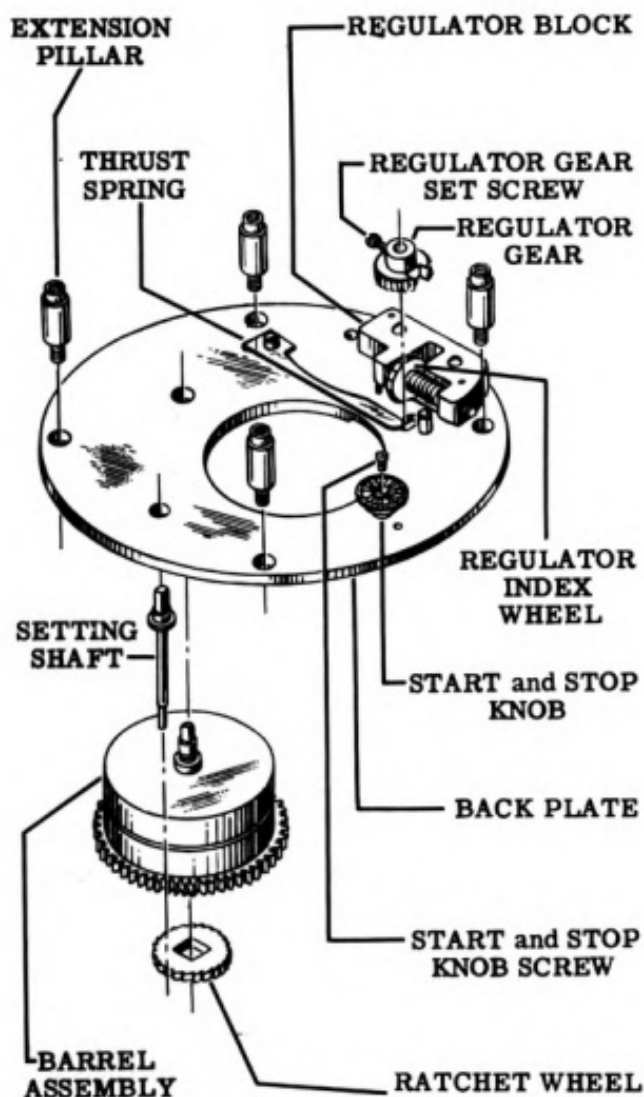
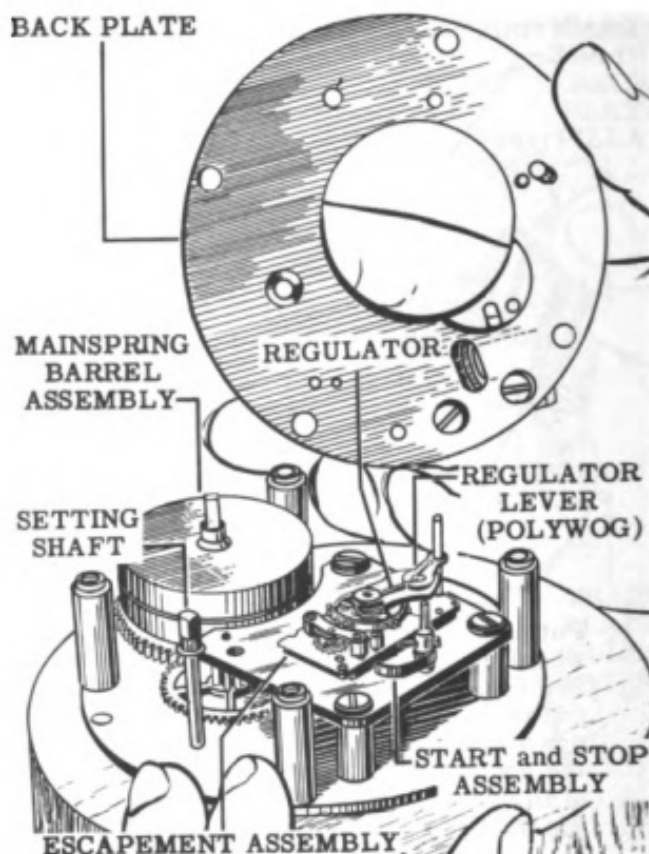

Figure 79
Figure 80
15. Put the ratchet wheel on the barrel arbor and mount the barrel into its hole in the front plate. Check to see that the click properly engages the ratchet wheel. Refer to Figs. 79 and 80.
16. Place the regulator staff assembly in position, making sure that the polywog engages the regulator in its center position. Tighten the regulator staff collar screw so that the regulator staff collar holds the polywog down on the regulator. Refer to Fig. 80.
17. Place the start and stop assembly in position on the train plate. See Fig. 80. Check to see that turning the start and stop shaft causes the start and stop spring to touch the rim of the balance wheel, and that the start and stop arbor spring causes a return of the arbor away from the balance wheel.
18. Place the setting shaft in position. See Fig. 80.
19. Put on the back plate with the assembled regulator assembly and thrust spring. See Fig. 80. While putting on the back plate, hold the start and stop spring screw aside so that it does not get on the wrong side of the start and stop stud in the back plate. With the stud in the proper position, the start and stop shaft can be turned in such a manner that the start and stop spring will touch the balance wheel. Fasten on the back plate with the four extension pillars and tighten with the special pillar pliers, Tool No. 6A. See Fig. 79.
22. Turn the movement over so that it is train side up in the work block. Fasten on the start and stop knob with the start and stop screw. See Fig. 79.
23. Place the regulator gear in position on the end of the regulator shaft. See Figs. 79 and 80. The regulator gear should be in center position and the polywog and the regulator on the balance cock also should be in center position. Hold aside the thrust spring and press the regulator gear down against the back plate. Release the thrust spring so that it presses against the regulator gear hub. Tighten the regulator gear screw.